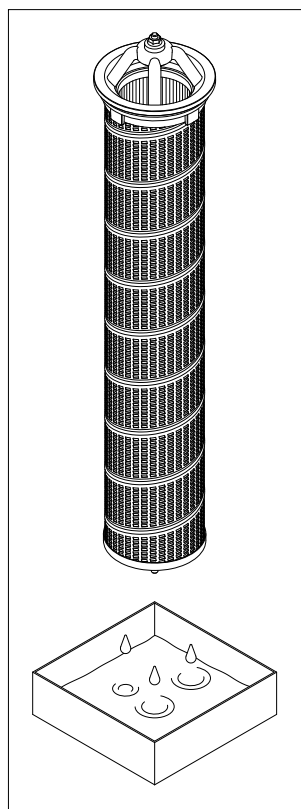

fig. 24
- (Fig. 24) Empty the operating fluid from the bowl and the internal filter into the collection vessel